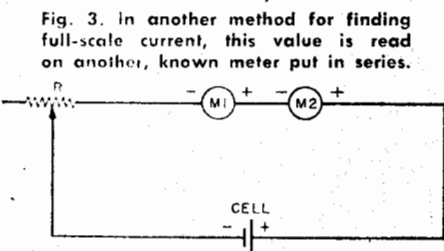

Fig. 3. In another method for finding full-scale current, this value is read on another, known meter put in series.
Another technique, which is simpler, requires an additional current meter that is known to be correct. This can be nothing more than a multi-range v.o.m. The unknown instrument (M_1), the known meter, and a variable resistor (R) of high value are placed in series across a battery, as shown in Fig. 3, with R set for maximum circuit resistance. The resistor is then adjusted to produce usable deflection on both meters. The percentage of deflection on unknown meter M_1 is noted, as is the actual current reading on known meter M_2 .